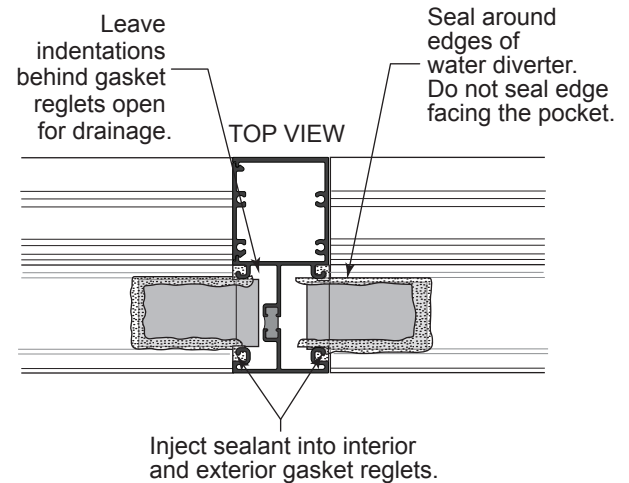

Fig.43.1
- B. Set the glass by installing into the deep pocket of the vertical first, then carefully sliding into the shallow pocket. Set glass onto (2) setting blocks located at quarter points or per approved shop drawings. Consult glass manufacturer if glass size exceeds 40 sq. ft.
- I. Prior to glazing the next row of lites, install water diverter P1135 at ends of intermediate horizontals. See **Fig. 43.1**.
Seal diverter to horizontal, leaving the gap at the front and side open in the vertical glazing pocket. See **Fig. 43.1 & 43.2**.